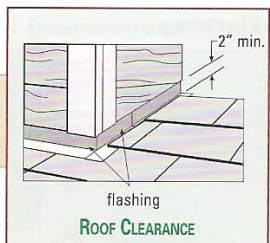

FIGURE 16
- A 2" clearance must be maintained between James Hardie products and roofs, decks, paths, steps, driveways, and other similar surfaces (Figures 16 & 17).